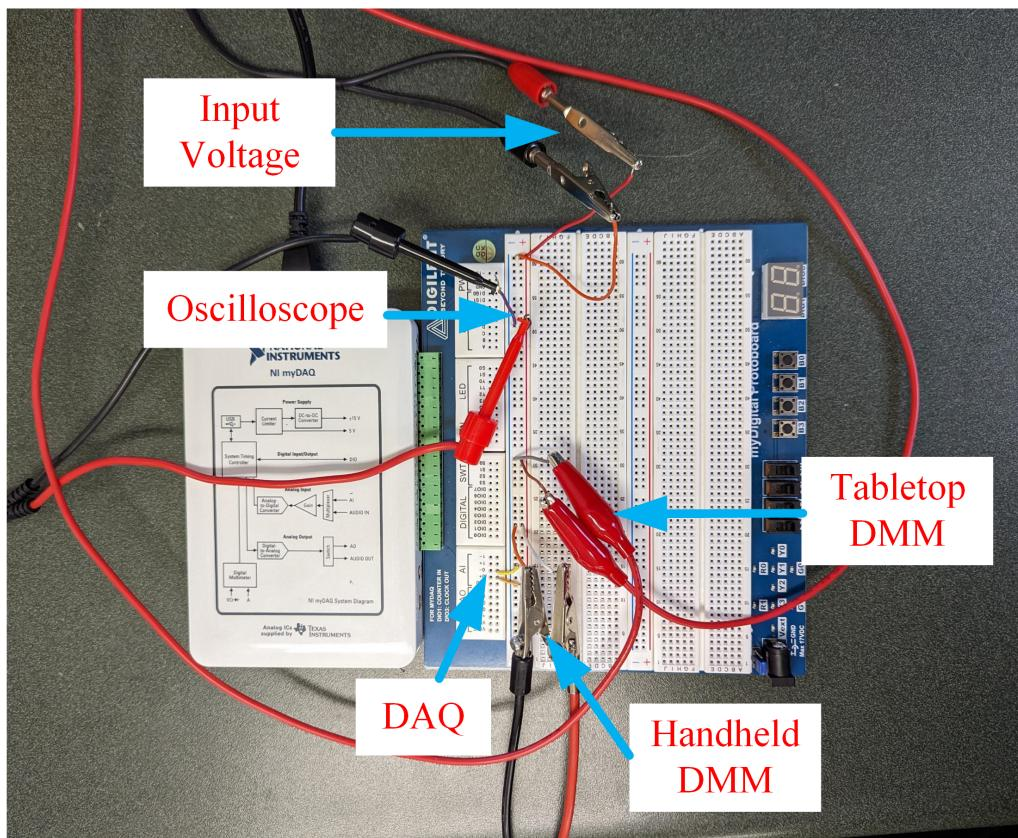

Figure 2: Sample connection from breadboard to four different measurement instrument.
2. From the breadboard, connect the output (source and ground) of the digital power supply to the handheld DMM, table-top DMM, NI-MyDAQ, and oscilloscope. See figure 2.